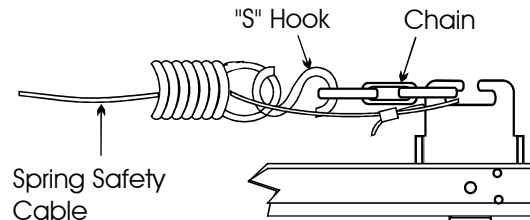

Fig. 17
- 10 Attach the spring to the chain using the "S" hook. (Fig. 17) The tension of the spring can now be adjusted by changing the length of the chain.
11. Be sure to allow the torsion tube to extend at least 75 mm beyond the side bearings at each end.(Fig. 17)
16. Rotate the torsion tube to take up the slack in the lifting cable. Use a pair of Vice grips to prevent the torsion tube from turning. (Fig 17)